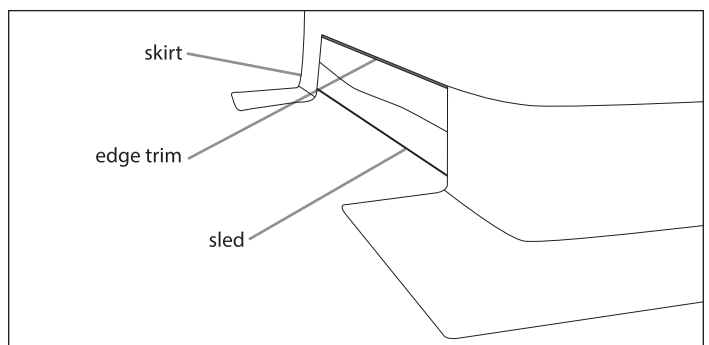

FIGURE 5
9. It is now time to drape the shelter skin over the top of the frame. Start by lifting the rear of the shelter skin over the top of the front frame support. Make sure that you are evenly working the shelter skin over the supports. Continue working the shelter skin over the rest of the frame supports until the shelter skin lies evenly over the entire shelter. **SEE FIGURE 5**
12. Pull the skin taut and push the edge trim over lip of the sled with the shelter skin between the two. It is important to keep the skin taut and work the edge trim evenly around both sides of the shelter until all edge trim is in place. **SEE FIGURE 5**